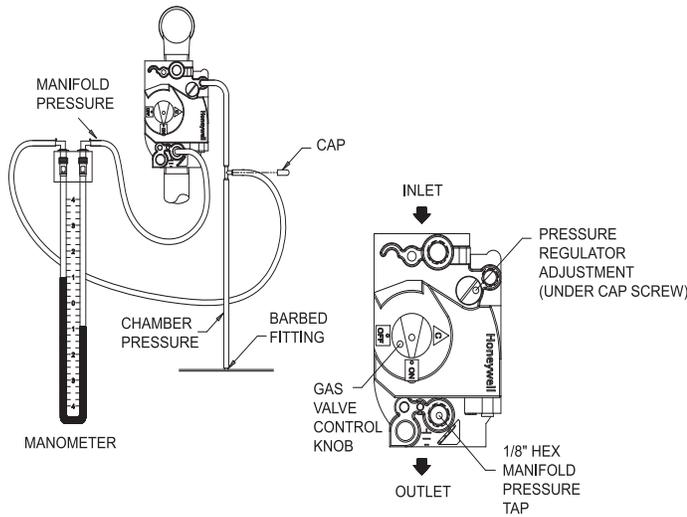

Figure 21 - Measuring Manifold Gas Pressure
4. Locate the reference hose on the first gas valve which goes from the vent fitting on the gas valve to the barbed fitting on the deck of the unit (see Figure 21).
6. Remove the 1/8” hex plug from the manifold pressure tap on the gas valve (see Figure 21). Retain plug for future use.
7. Install a fitting in this tap that is suitable for connection of a hose to a manometer, or (+) side of a magnahelic gauge (see Figure 21).